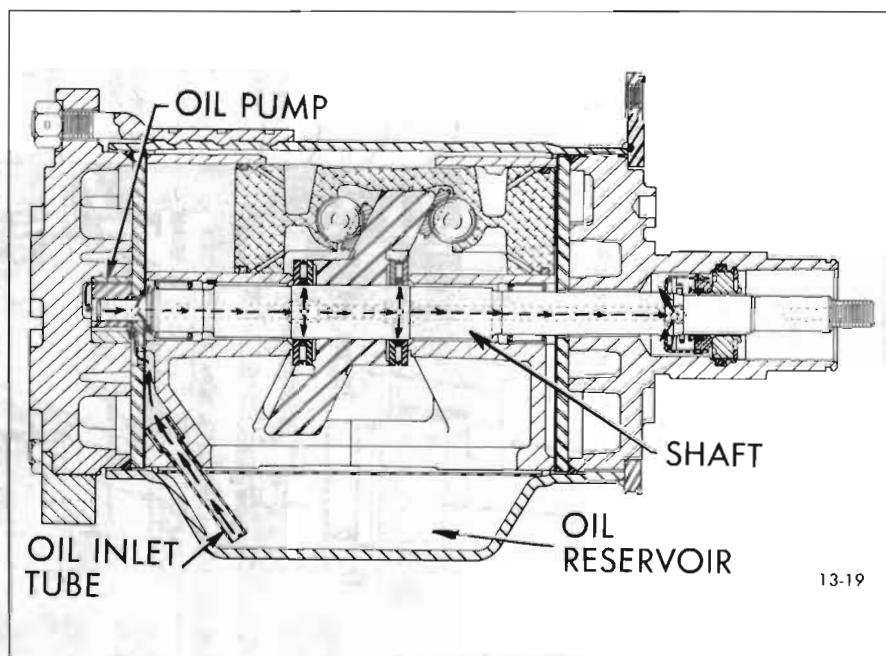

Figure 13-19—Compressor Oil Flow
3. Oil Pump--An internal tooth outer rotor and external tooth inner rotor comprise the oil pump. The pump works on the principle of a rotary type pump. Oil is drawn up from oil reservoir in underside of shell through the oil inlet tube (see Figure 13-19) and circulated through the system via a 3/16 inch diameter